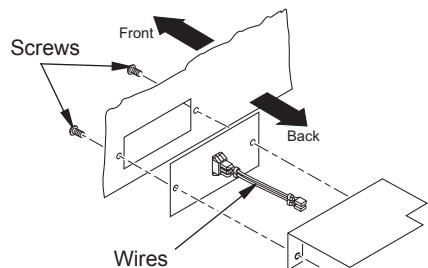

Figure 18 - Switch Plate and Wiring Harness (Switch Plate and Orientation May Vary Depending On Model)
3. Remove switch plate (see Figure 18). Discard after removing.